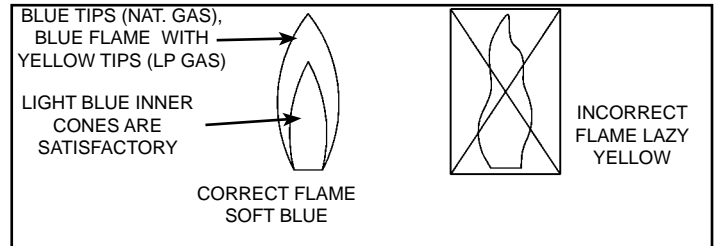

Figure 43
Inspect the burner flames through the viewport and compare them to the drawings in Figure 43. A properly operating burner should produce a soft blue flame. Blue tips with light blue inner cones are satisfactory. The tips of the flame may have a slight yellow tint. The flame should not be all yellow or have a sharp blue-orange colour. Contaminated air may cause an orange coloured flame. Contact your Reliance service technician if the flame is not satisfactory.
- Build up of soot and carbon on the main burner. Check for a soft blue flame (see Figure 43).
of gas, ignite rapidly, give reasonably quiet operation, and cause no excessive flame lifting from the burner ports. If the proper flame characteristics are not evident (see Figure 43), make sure that the flow of combustion and ventilation air is not blocked.